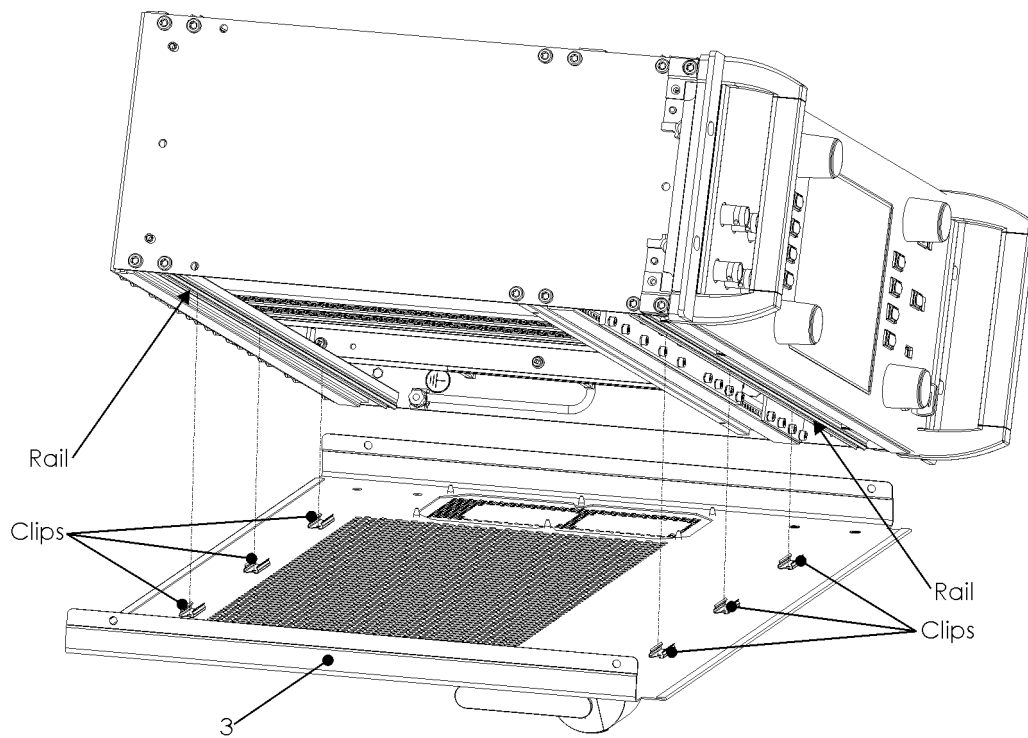

Figure 168 Placing the DLC pro on the base plate
4. Place the DLC pro in correct orientation (see Figure 168) on the base plate (3) so that the six clips of the base plate (3) are aligned with the rails of the DLC pro (see Figure 168). Carefully press together DLC pro and base plate (3). A clicking indicates that a clip is properly engaged.
5. Place the top cover (2) on the DLC pro so that the six clips of the top cover (2) are aligned with the rails of the DLC pro (The clips and rails are similar to the ones of the base plate illustrated in Figure 168). Carefully press together top cover (2) and DLC pro. A clicking indicates that a clip is properly engaged.